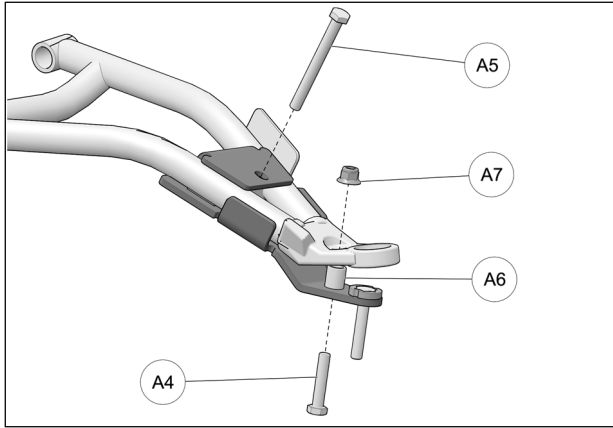

Fig. 16
- Insert the M10x100mm bolt (**A5**), from the top, through the hole in bracket cover. From the bottom, insert the M10x50mm bolt (**A4**) through anchor bracket, bushing (**A6**) and suspension arm. Secure bracket to suspension arm using provided nut (**A7**). Tighten assembly to 50 N•m [37 lb•ft] of torque. Refer to Fig. 16